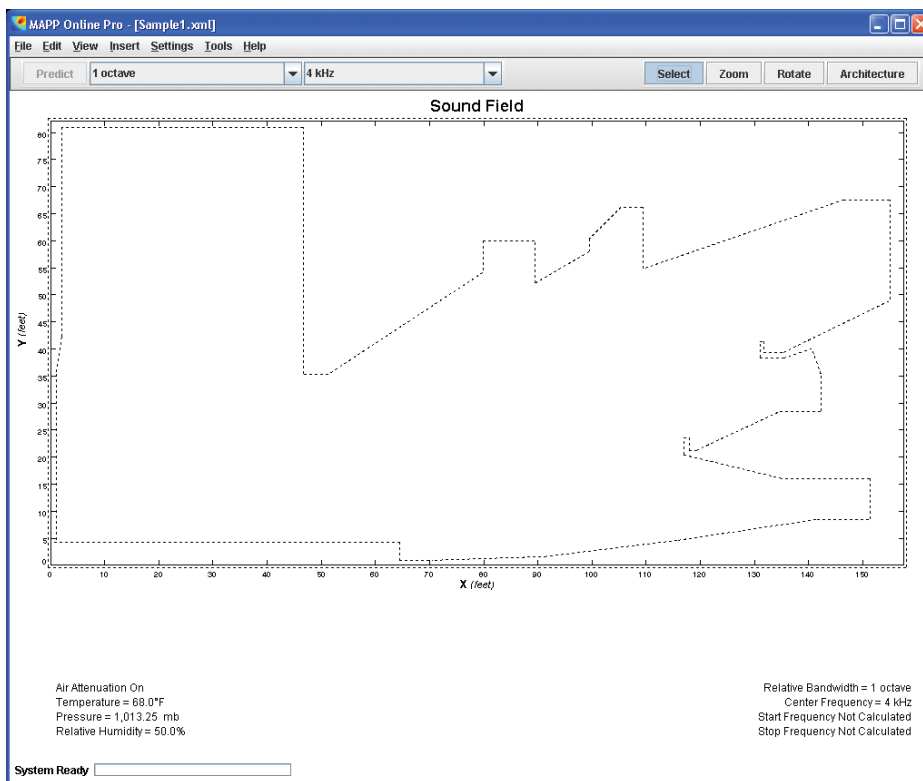

Figure 6. The Sample1.xml project file: Architectural visual aids drawn within the sound field representing a cross-section view of an auditorium.
3. Select the project file you wish to open from the File Open dialog and click **Open**, as shown in Figure 6 (Sample1.xml).